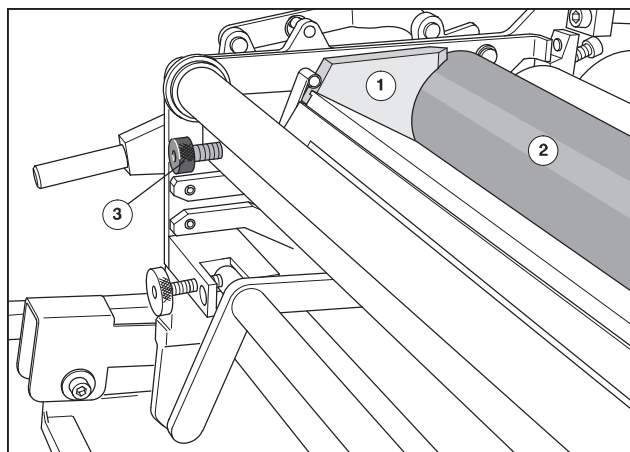

Fig. 17 Ink fountain
1. After inserting the ink fountain cheeks (Fig. 17/1) fold up the ink fountain; the ink fountain cheeks lie slightly against the ink fountain roller (Fig. 17/2).
2. Screw in the knurled screws (Fig. 17/3) on both sides until the ink fountain blade lies against the ink fountain roller.